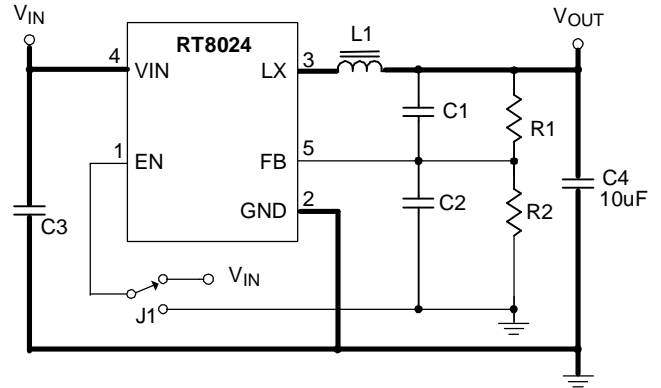

Figure 6. EVB Schematic
- } For the main current paths as indicated in bold lines in Figure 6, keep their traces short and wide.